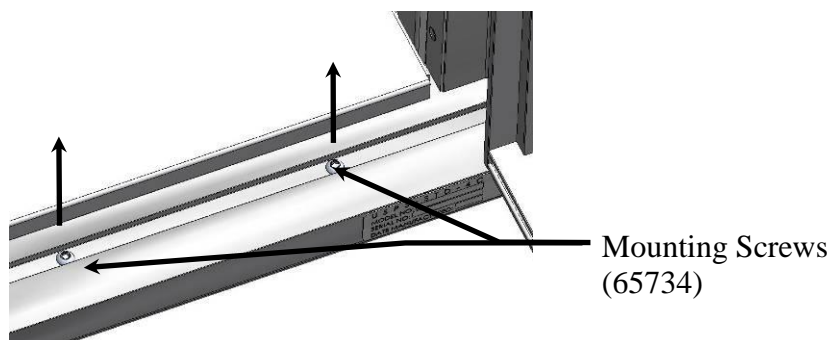

Figure 12 – Remove Bottom then Top Mounting Screws
Step 3 - Remove mounting screws along the bottom of the versatile™ 4C unit and then along the top. (See Figure 12)